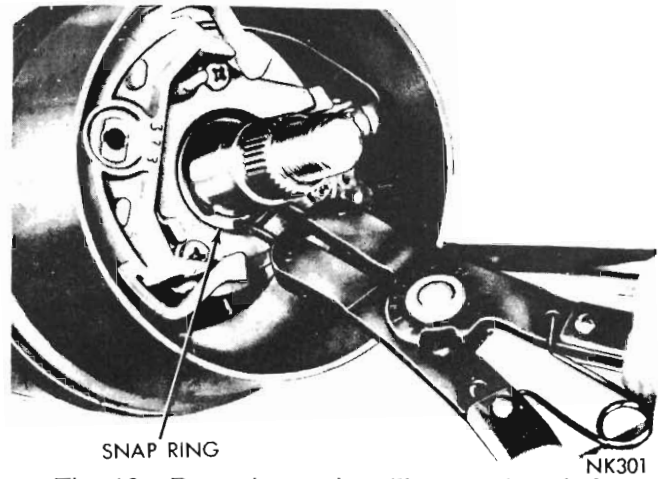
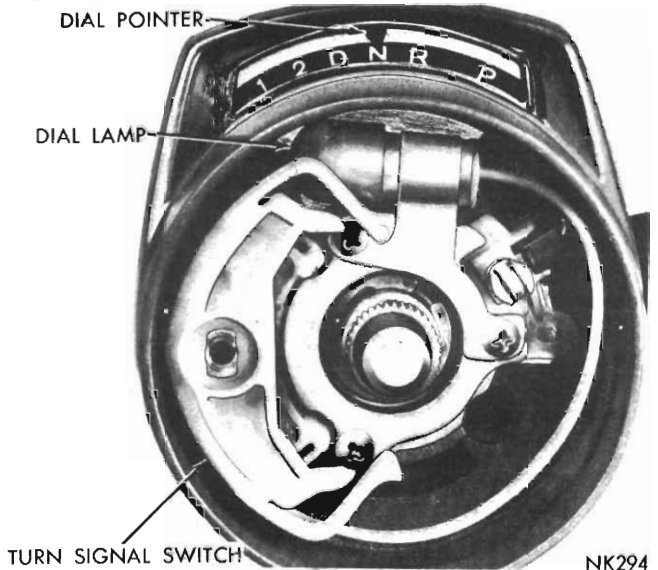

Fig. 10 - Removing or installing steering shaft snap ring
Fig. 16 - Turn signal switch and gearshift indicator
(1) Remove snap ring from upper end of steering shaft (Fig. 10).
(10) Position turn signal switch in bearing housing, install switch retainer plate, dial lamp and secure with three screws (Fig. 16). Guide dial pointer over dial, then snap base of pointer on lug provided on gearshift housing.
(11) Place gearshift lever in NEUTRAL position.
(12) Slide column jacket lower seal off the steering shaft. Fill the cavity in seal between the two nylon bushings with short fibre wheel bearing lubricant. Re-install seal on shaft and slide assembly in the column. Tap the shaft through upper bearing and install retaining snap ring (Fig. 10). Engage seal over lip on lower end of column jacket.